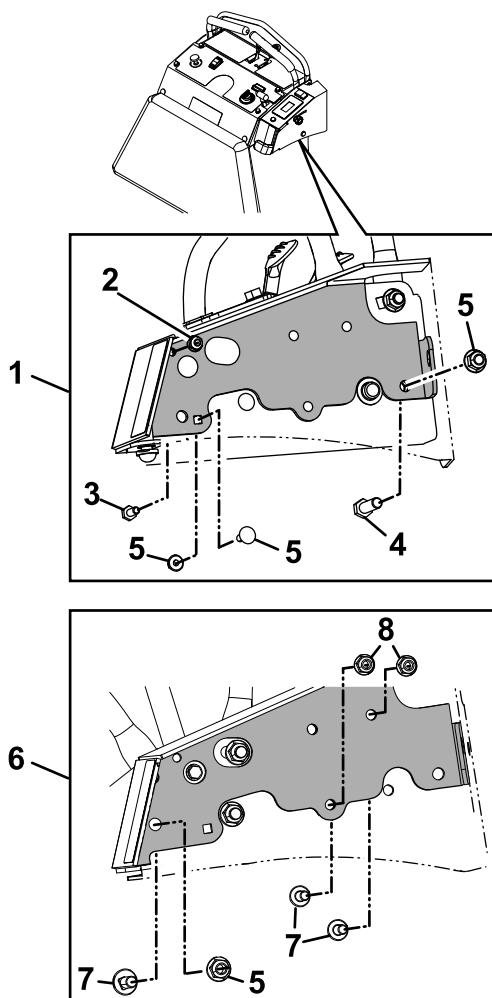

Figure 1
2. Place the flow control panel onto the aerator and secure using the hardware shown in Figure 1.